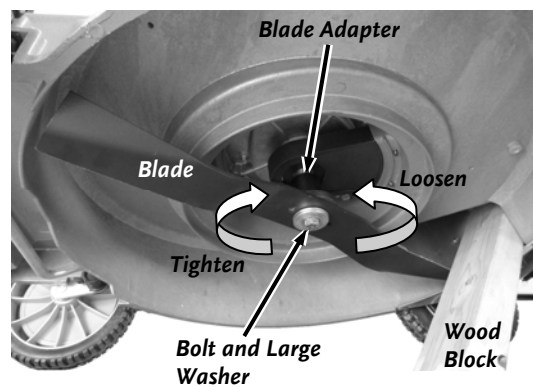

Figure 19
2. Use a block of wood to hold the blade steady (**Figure 19**).
2. Remove the Blade Adapter from the Engine Shaft (**Figure 19**).